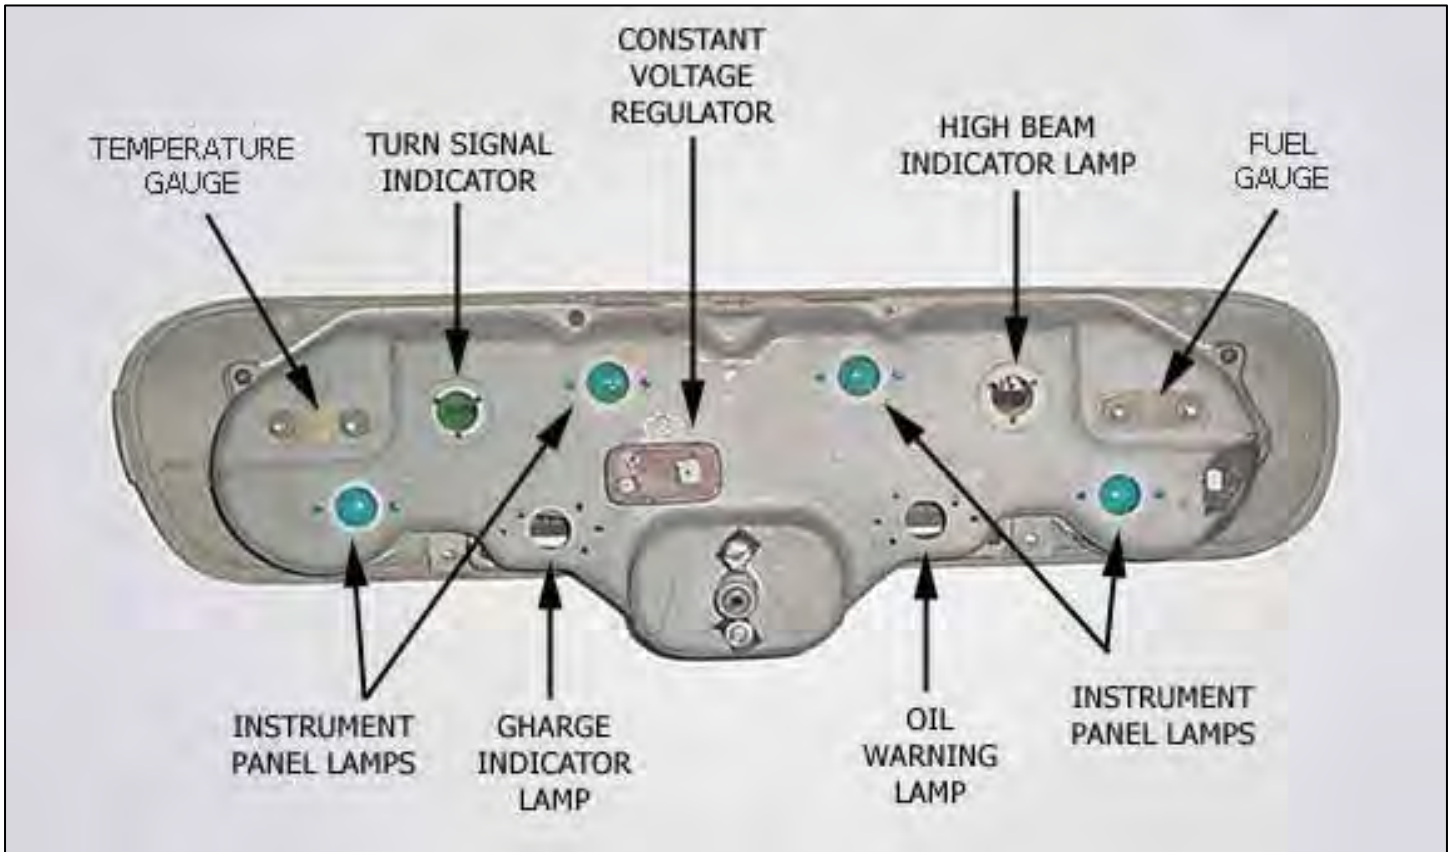

Figure 7-7 Instrument Panel and Gauges (1964 ½ - 1965)
- 7.10.1 Connect the wires of the INSTRUMENT PANEL SECTION as indicated in **Table 8.2 or Figure 7-7 and 7-8**. Insulate and stow any wires you do not use.